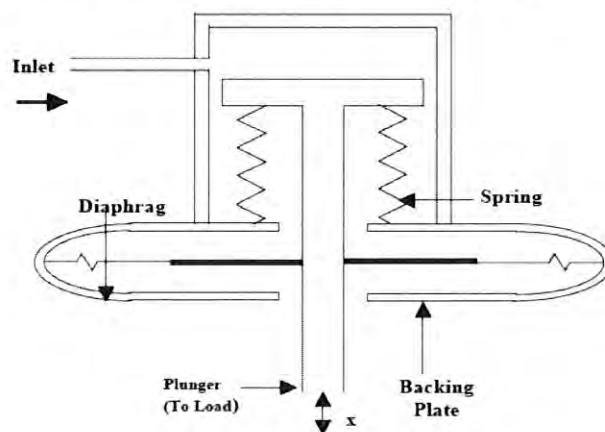

Figure 6 : Pneumatic Actuator
d) For the Pneumatic Actuator shown in Figure 6, determine the transfer function  $X(s)/P(s)$ , where  $X(s)$  is the output displacement and  $P(s)$  is the input pressure. (4 marks)